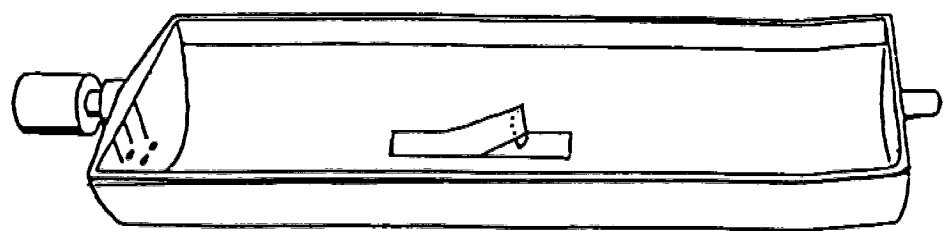

Figure 4
- C.) Reverse bend the can retainer at the mark. (See figure 4.)